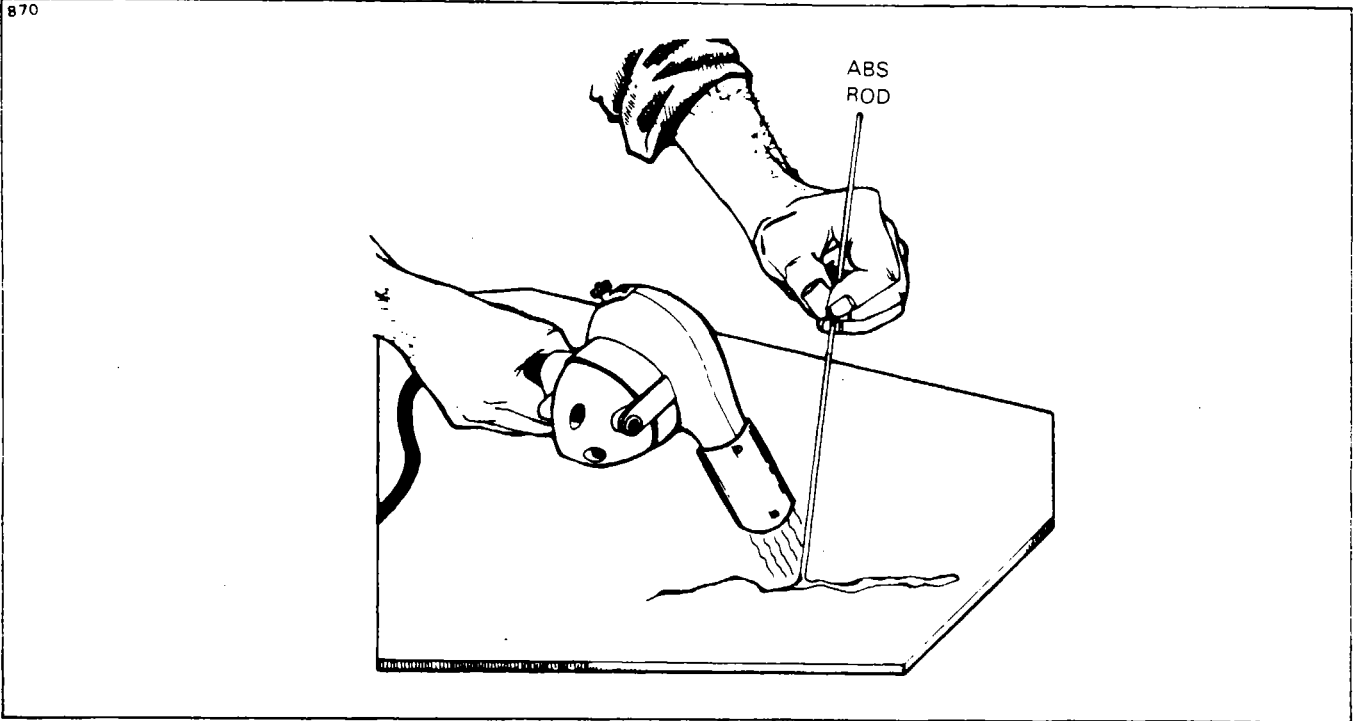

Figure 4-12. Welding Repair Method
J. This welding method requires a hot air gun and ABS rods. To weld, the gun should be held to direct the flow of hot air into the fusion (repair) zone, heating the damaged area and rod simultaneously. The gun should be moved continuously in a fanning motion to prevent discoloration of the material. Pressure must be maintained on the rod to insure good adhesion. (Refer to Figure 4-12.)